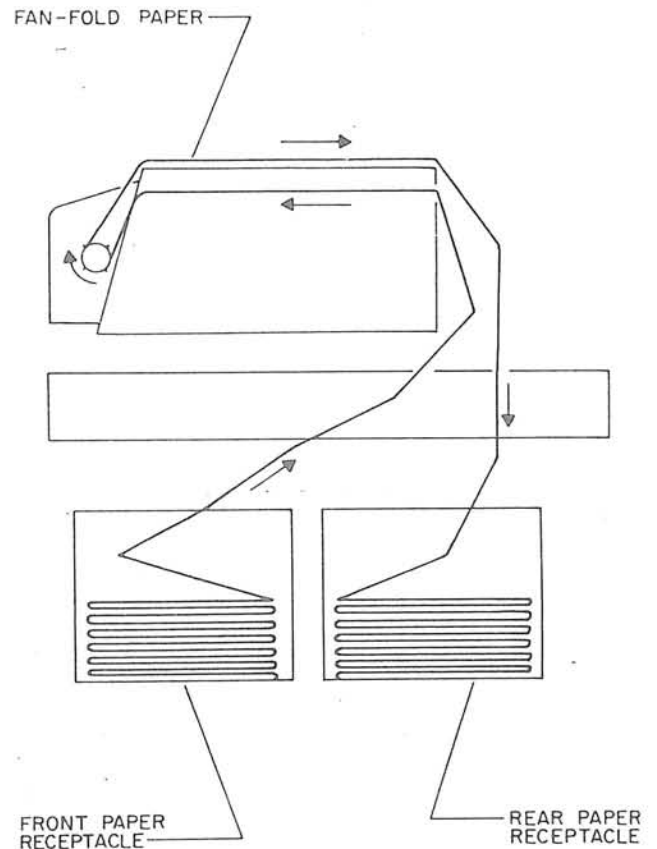

Figure 3-4. Sprocket Feed Paper
Step 6. Fill front paper receptacle (Figure 3-4) with supply of fan-fold paper, being careful to position it so that master sheet faces bottom of teletypewriter.
Step 17. When operation has begun, check that copy paper feeds into rear paper receptacle as shown in Figure 3-4.
(4) STARTING PROCEDURE.